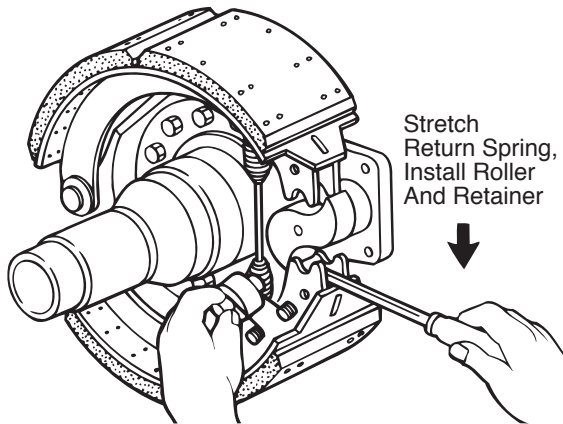

Figure 13
- Using a lever or large screwdriver, stretch shoe return spring to allow insertion of new pin and roller, (or roller and retainer assembly) on the lower shoe web. Refer to Figure 13.